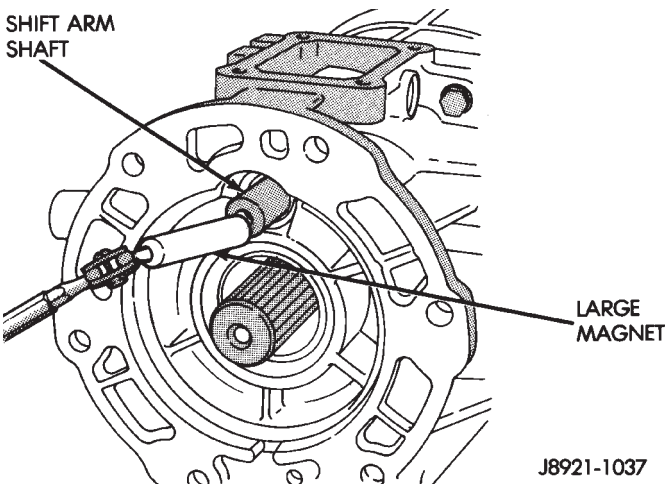

Fig. 7 Removing/Installing Shift Lever Shaft
(8) Remove shift arm shaft with large magnet (Fig. 7).